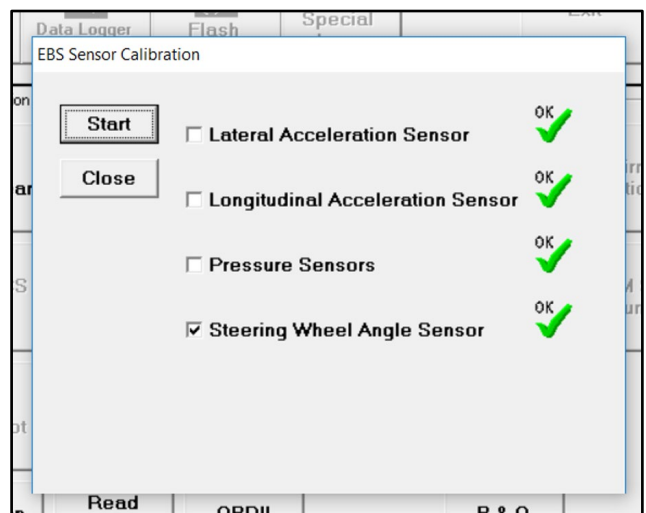

Figure 18
32. Click "Start" to start the calibration procedure (refer to Figure 18). The sensor calibration is now complete.